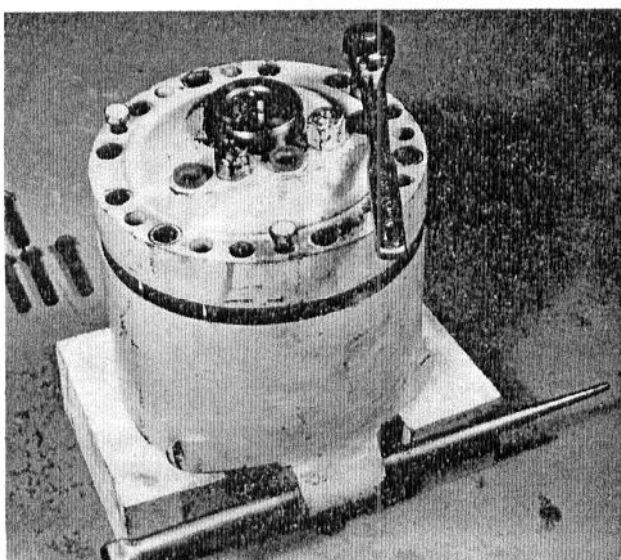

Fig. 46 — Removing Top Cover From Barrel
2. Use three of the previously removed capscrews threaded into the puller holes in the top cover to carefully separate this cover from the barrel assembly ... see Fig. 46. Spacers may have to be placed between the capscrews and the barrel (after maximum separation with capscrews alone has been obtained) in order to lift the cover free of the dowel pins installed in the mating flange of the barrel. Tighten the "puller" capscrews evenly so that separation of cover is even.
23. CAREFULLY POSITION the top cover over the vane shaft (and barrel assembly) while aligning the dowel pins in the barrel with their respective holes in the cover ... see Figs. 46 and 47: (The port cavities